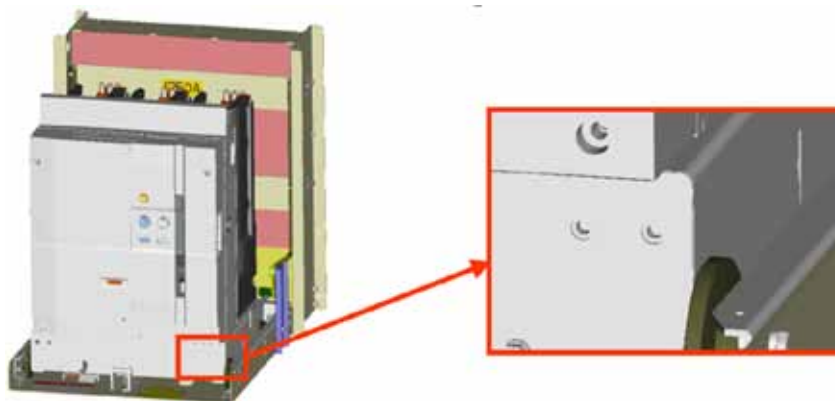

Figure 14 - Hole of circuit breaker for fixed bracket at TEST position.
- ① Locate the VCB at the test position shown in Figure 14.